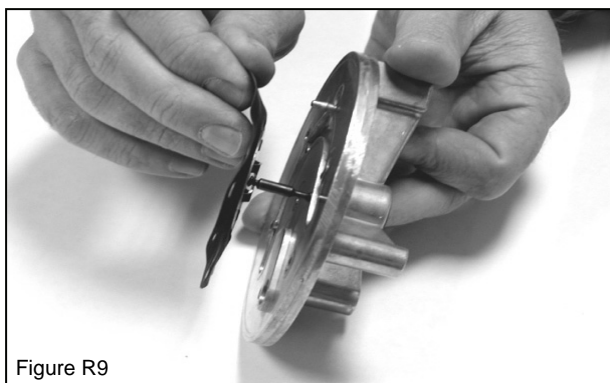

Figure R9
Turn the regulator body over with the rear fuel inlet plate facing up. Remove the primary valve access plug (7), the primary valve (8) and the primary valve o-ring seal (9). **The primary valve goes through the inlet plate, then through the body assembly and is retained by the primary diaphragm (Figure R9).**